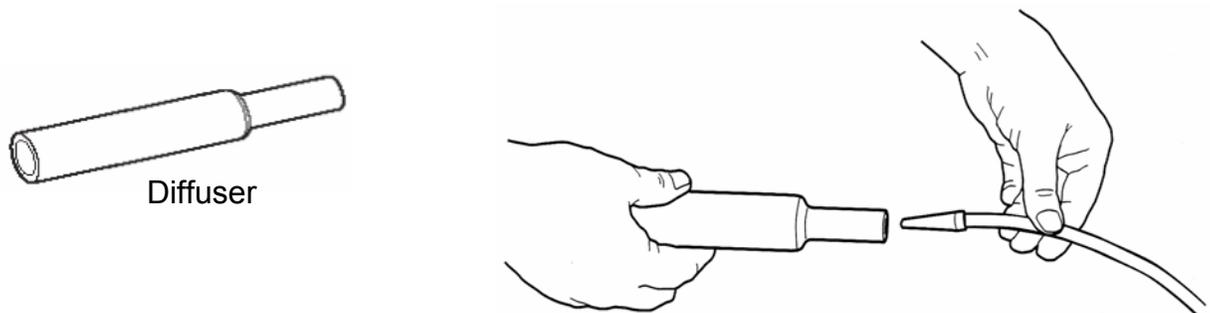

Figure 10
5. Attach the OPTIONAL diffuser to the end of the tester's hose. See Figure 10